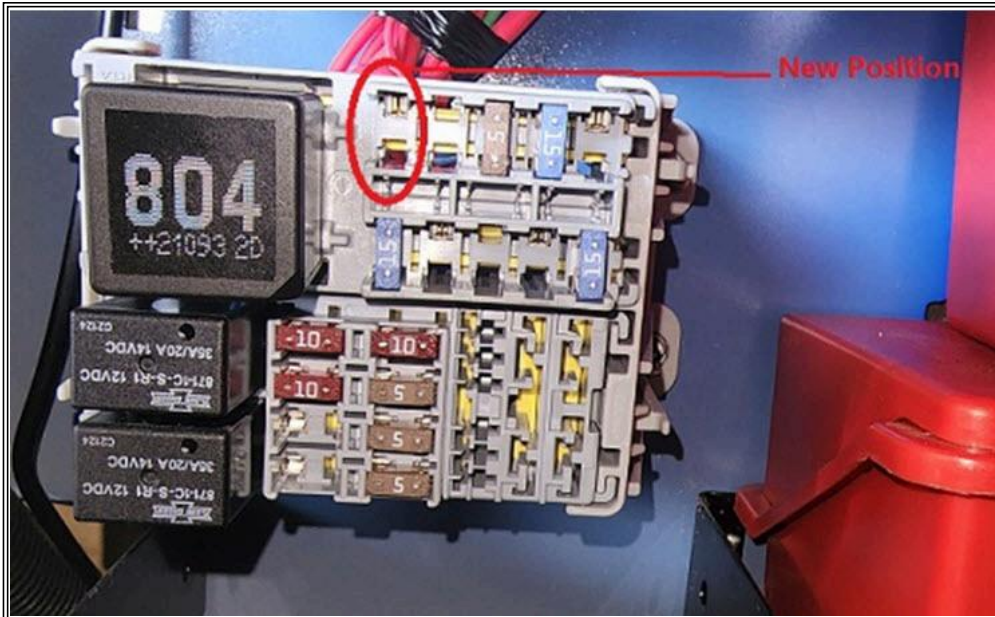

Figure 8: Sleeper PDM (5001B)
6.) Remove and position the fuse block to gain access to the terminal locks (Figures 8, 9)